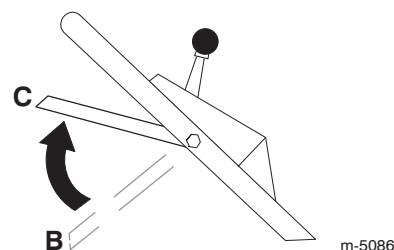

Figure 16
- Bring the blade control bail up into the middle position about 5 inches (12.7 cm) below the handle cross bar (Position **C** in Fig. 16).
- Release the blade control bail (Position **B** in Fig. 16).